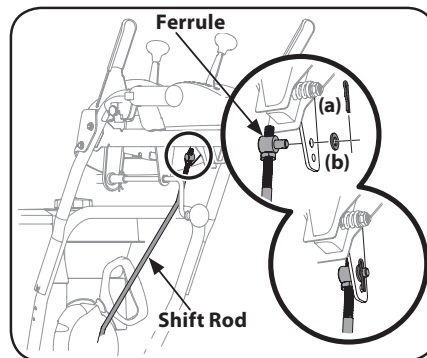

Figure 2-34
8. Remove cotter pin (a) and washer (b) from ferrule on end of shift rod. See Figure 2-34 inset.